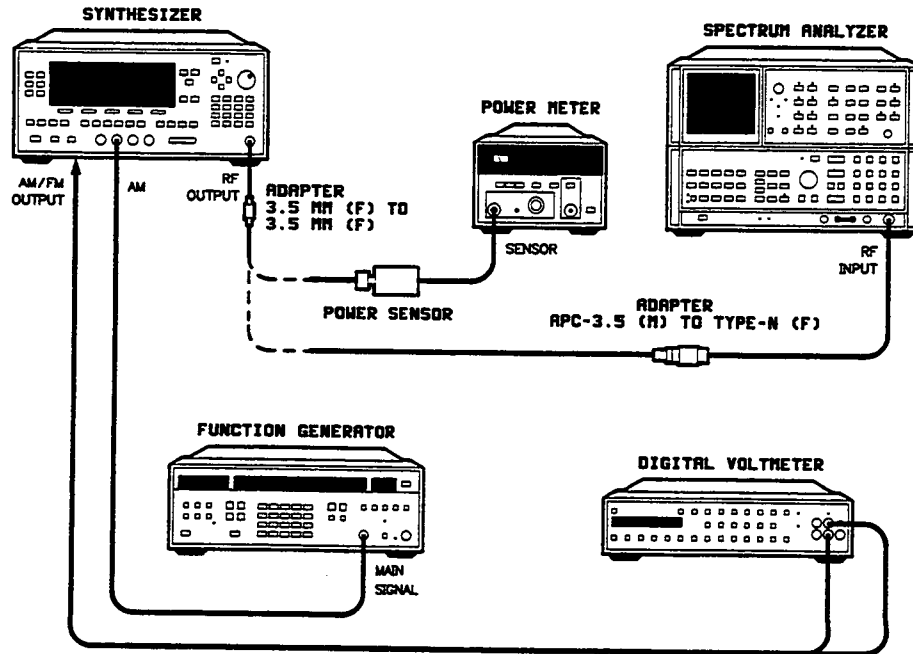

Figure 2-21. AM Dynamic Range Test Setup
1. Preset the instruments shown in figure 2-21 and let them warm up for at least one hour.
4. Connect the equipment as shown in figure 2-21 with the power sensor connected to the synthesizer's RF OUTPUT.
20. Disconnect the power sensor from the synthesizer and connect the spectrum analyzer as shown in figure 2-21.